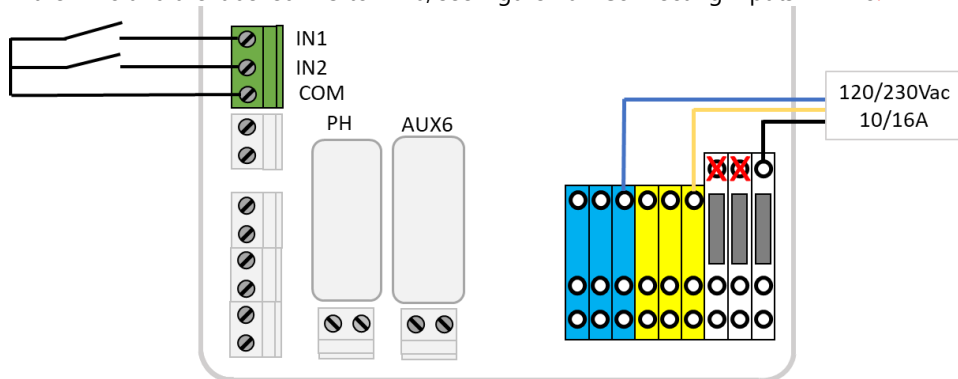

Figure 39 - Connecting Inputs in CCU
- ☐ In the CCU and are labelled IN1 and IN2; see Figure 39 - Connecting Inputs in .